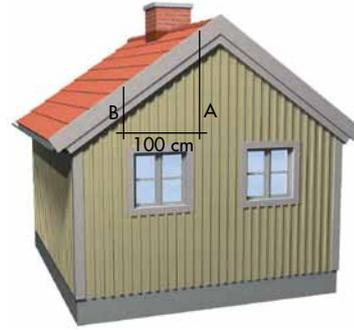

Figure 1. Subtract measured number (B) from measured number (A) to get the roof pitch, See table 1.
Follow these steps to calculate the roof pitch in degrees: Measure out a 100 cm horizontal distance of the house's gable. Then measure the orthogonal distance in centimeters from leg end points up to the ceiling, see Figure 1. Subtract the smaller number (B) from the larger number (A), e.g. 157-112 = 45 cm, which gives you how much the roof rises per meter, See Table 1 in order to obtain the degree: 45 cm = 24° roof pitch.